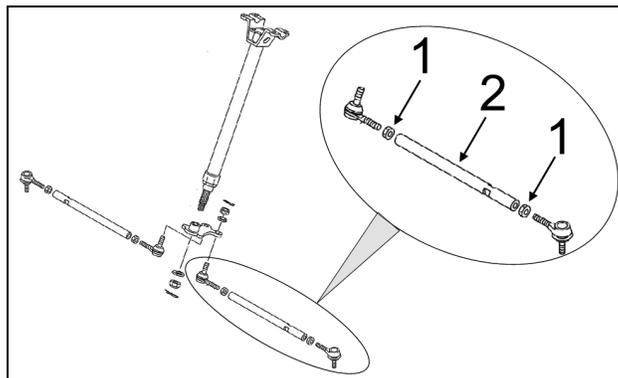

Figure 19
To adjust the ATV's steering system, first loosen coupling rod nuts (1), then screw or unscrew the coupling rod (2) an equal number of revolutions on both sides of the vehicle. Re-tighten nuts when adjustment is complete. See Figure 19.
**CAUTION:** Remember that some nuts have reverse threads before loosening a coupling rod nuts (1) on the vehicle's steering system. Make sure to unlock the nut in the proper rotational direction.